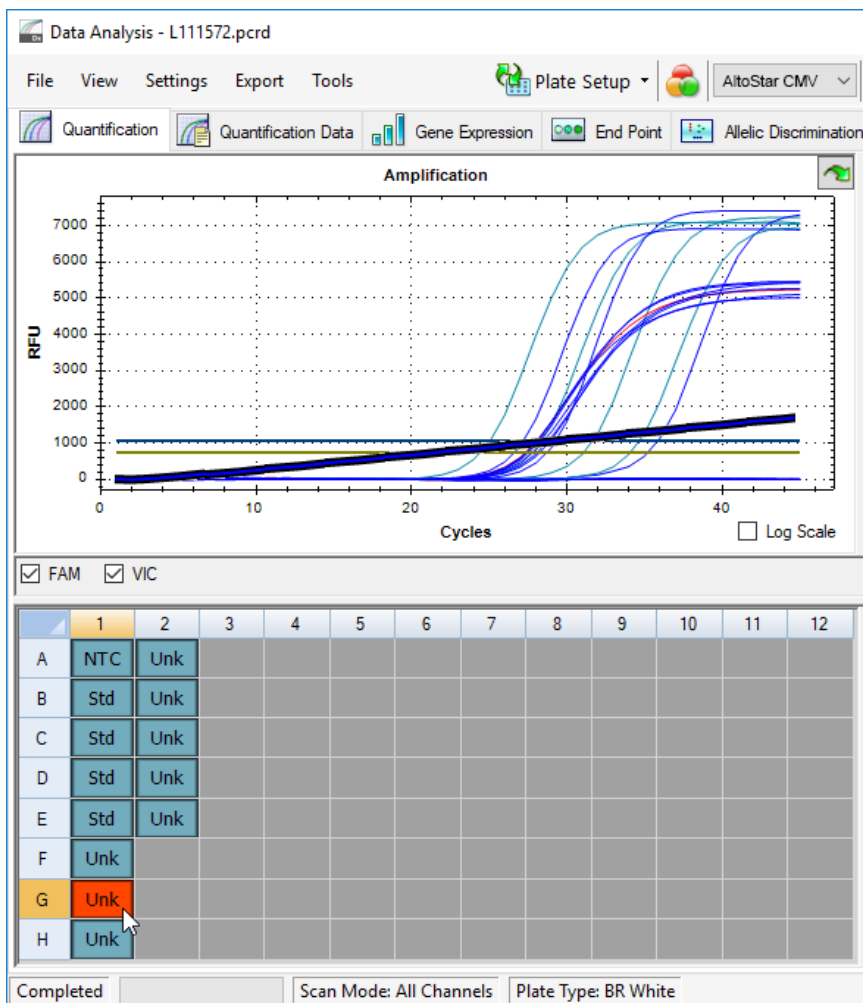

Figure 6: Data Analysis window: irregular PCR signal
2. Identify wells with irregular PCR signals (linear signal increase, signal spikes, etc.) in any of the FAM™ (CMV target) and the VIC™ (IC) detection channels (see figure 6).